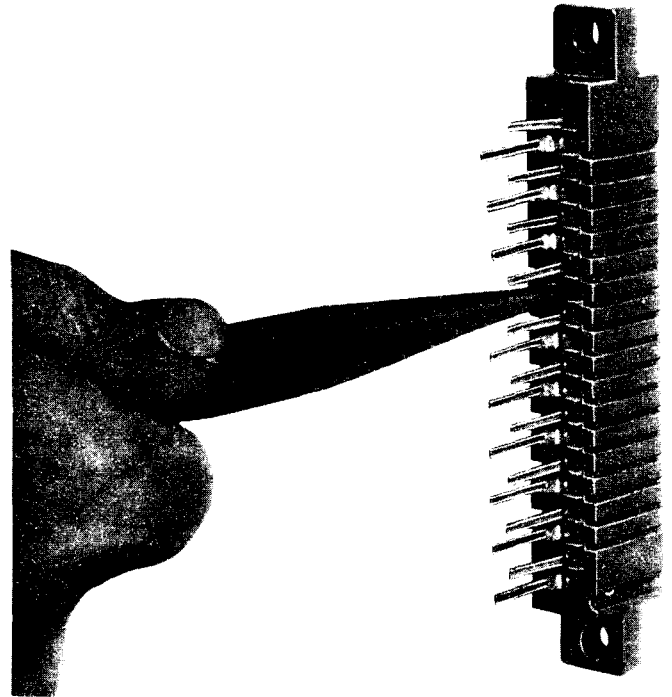

Fig. 4—Breaking Terminals from Connector
- (b) The terminals have a small indentation on the portion of the terminal nearest the connector surface. This portion of the terminal must be removed to allow the contact end of the terminal to be extracted. Using the B long nose pliers, grasp the terminal beyond the wire-wrapped portion as closely as possible to the connector. Work the pliers back and forth in the plane perpendicular to the long dimension of the connector until the entire terminal breaks off between the indentation and surface of the connector (Fig. 4).